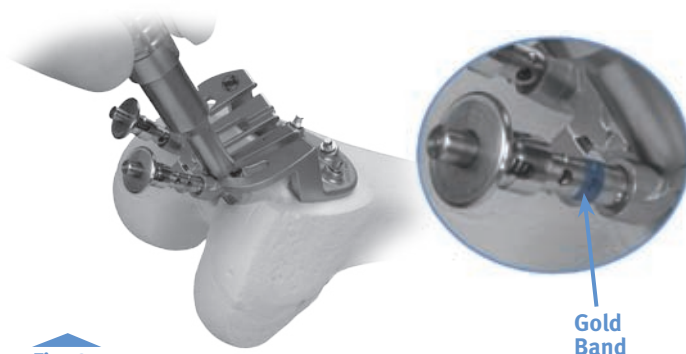

Fig. 37
- o Pull up until stop is reached and release the button. (“Mill” position – The gold band should be visible above guide) (Fig. 37).